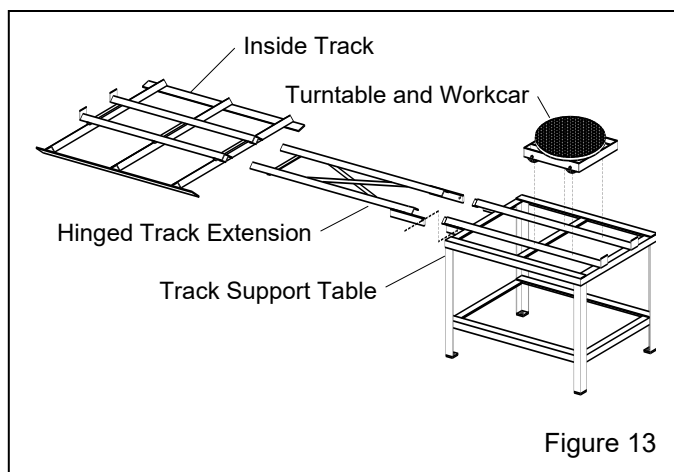

Figure 13
3.5.1 Components of the turntable and track assembly are shown in Figure 13. The assembly consists of: